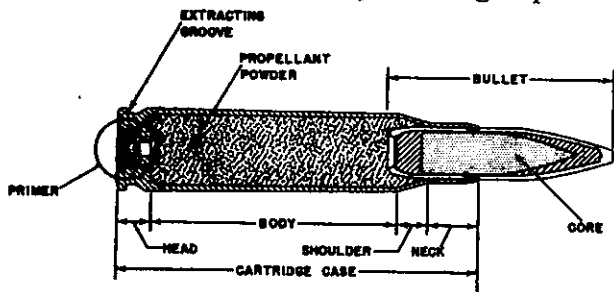

Figure 48. Parts of a cartridge.
a. Figure 48 shows the parts of a typical cartridge.